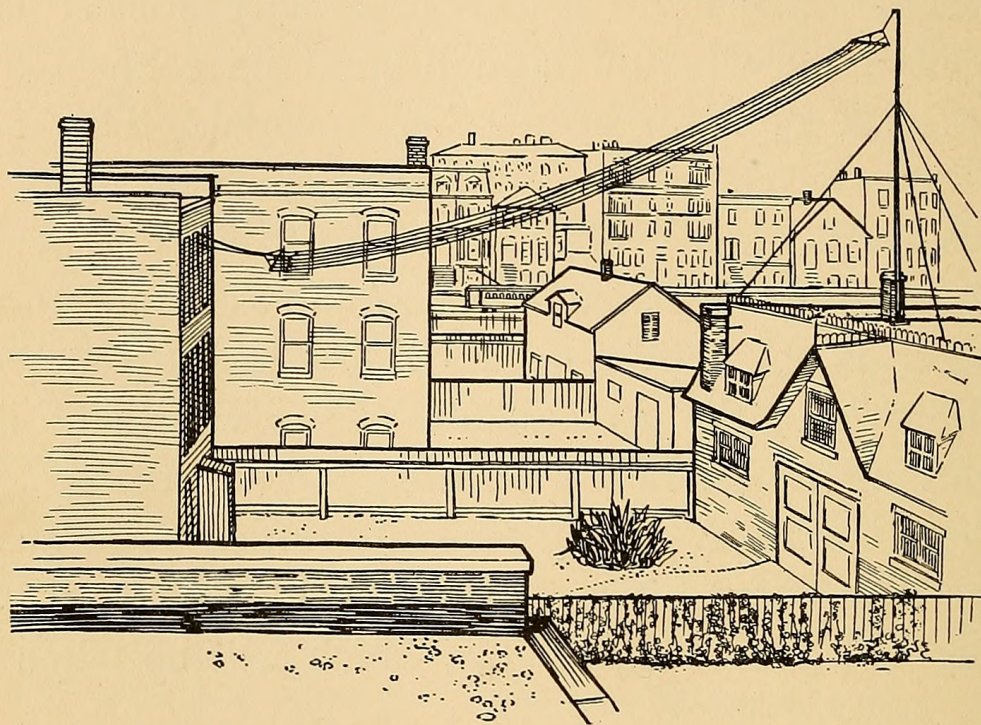

FIG. 301. — The Length of the Aërial Mast can be reduced by erecting it upon a Roof. Use Two Masts if One End cannot be supported as Above.
sults are obtained when it is supported horizontally or slanting between two supports (Fig. 301). A very satisfactory aërial is one which is 70 or 80 feet long and 50
feet or more high. With such an aërial and the instruments described upon the following pages receiving can be accomplished within a radius of several hundred miles. Of course the dimensions of the aërial will necessarily depend upon the character of the place, and if the masts are erected upon the housetop or the roof of a shed, the height can be obtained with shorter material (Fig. 301).
**The Masts** which support the aërial should be equipped with pulleys, like rigging a flagpole, so that the aërial may be hoisted or lowered at any time for repairs. Clothes-line pulleys such as are shown in Fig. 208 (page 171) and a stout hemp clothes-line may be used for the rigging. The poles must, of course, be braced very strongly with wire stays (Fig. 301), and it is a good idea to set in *turnbuckles* (see *H* and *I*, Fig. 212, page 174) so that the stays may be kept taut. If one end of the aërial can be run down to the house and fastened to the window-frame, as in Fig. 301, of course only one mast will be necessary.